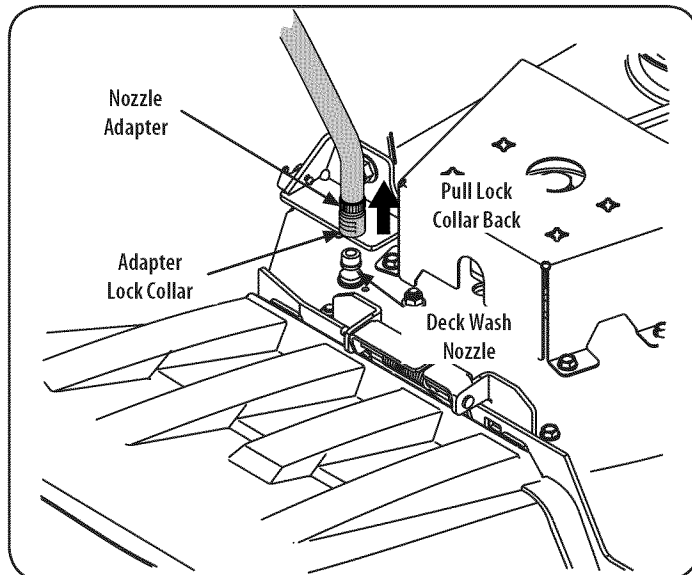

Figure 17
3. Pull back the lock collar of the nozzle adapter and push the adapter onto the deck wash nozzle at the left end of the mower deck. Release the lock collar to lock the adapter on the nozzle. Refer to Figure 17.